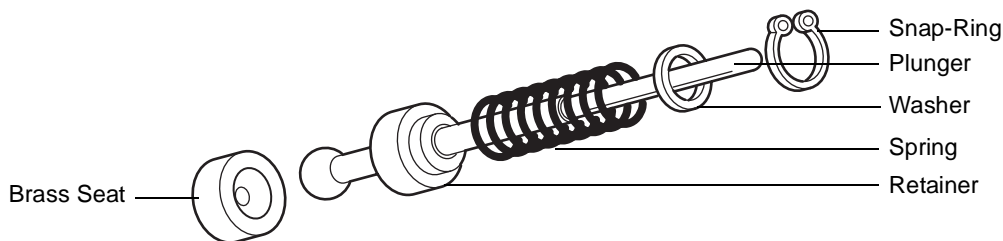

Figure 4-5 Disassembled Plunger
Clean the plunger by sonicating the plunger in 50:50 methanol/water for a few minutes. The parts of the plunger assembly are shown in Figure 4-5.
1. Reassemble the components of the plunger assembly as shown in Figure 4-5. Make sure the brass seat is located at the bottom of the piston.